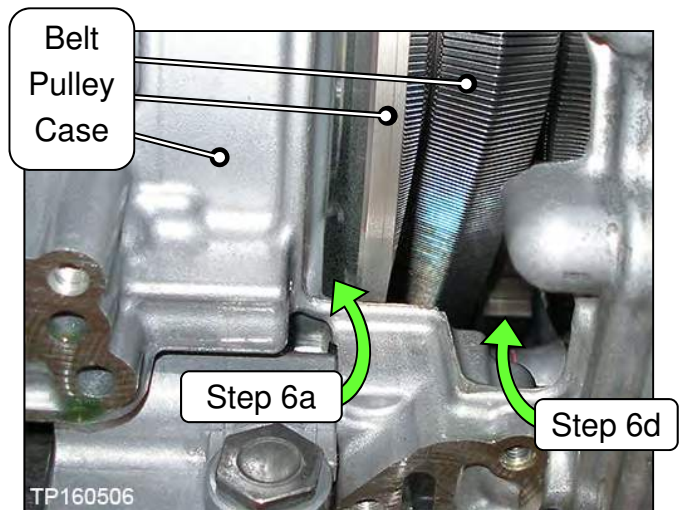
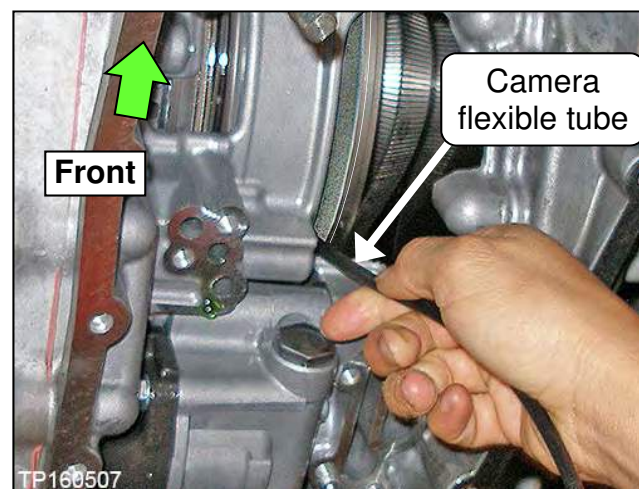
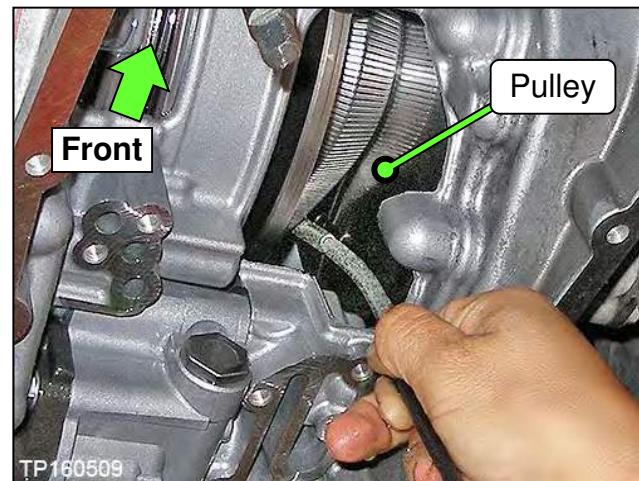

Figure 3
Figure 4
Figure 6
- a. Insert the camera lens between the CVT case and pulley where shown in Figure 3 and Figure 4.
- Insert the lens approximately seven (7) inches, and then view the side of the belt that contacts the pulley.
- Insert the camera lens in the second location where shown in Figure 3 and Figure 6, and then perform step 6b again.